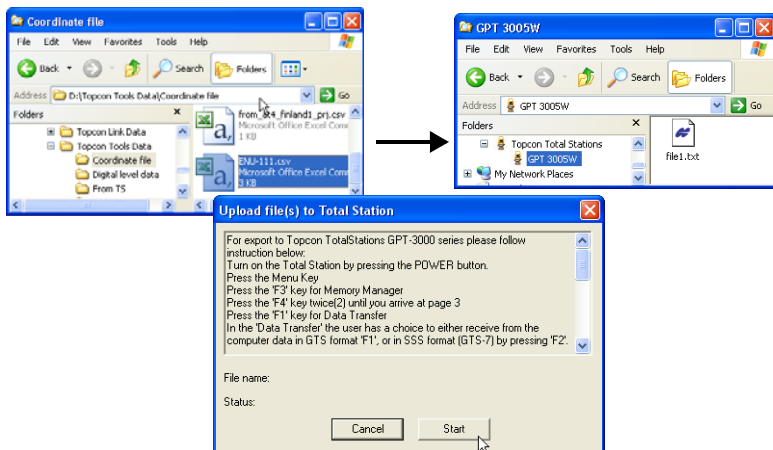

Figure 8-12. Start of Export a Coordinate File to the Total Station
6. Follow all the steps given in the **Upload File(s) to Total Station** dialog box to prepare the Total Station for exporting file (Figure 8-12).
7. When ready to send the file, press **F3** for “yes” at the Total Station. Click **Start** in the **Upload File(s) to Total Station** dialog box (Figure 8-12). The upload process begins.